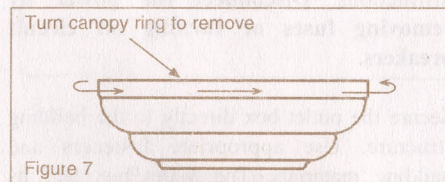

Figure 7
1. Remove the canopy ring from the canopy by turning the ring to the right until it unlocks. (Figure 7)